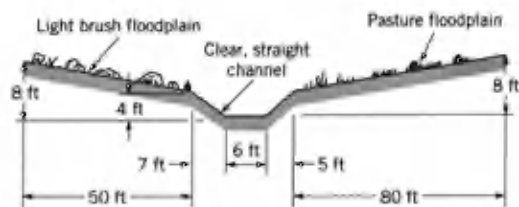

FIGURE P10.11R
10.11R (Manning equation) Determine the maximum flowrate possible for the creek shown in Fig. P10.11R if it is not to overflow onto the floodplain. The creek bed drops an average of 5 ft/half mile of length. Determine the flowrate during a flood if the depth is 8 ft.